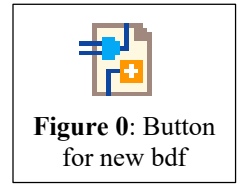

Figure 0: Button for new bdf
1. If you have not already done so, create a new bdf by selecting the bdf button (see Figure 0) or by selecting the pull-down button "File" and "New | Device Design Files | Block Diagram/Schematic File" and then press "OK".